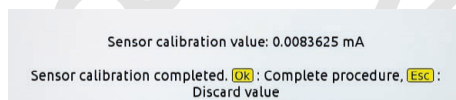

Fig. 36
**3** The message in Fig. 36 is displayed: follow the instructions, then start the procedure by pressing **[OK]**.